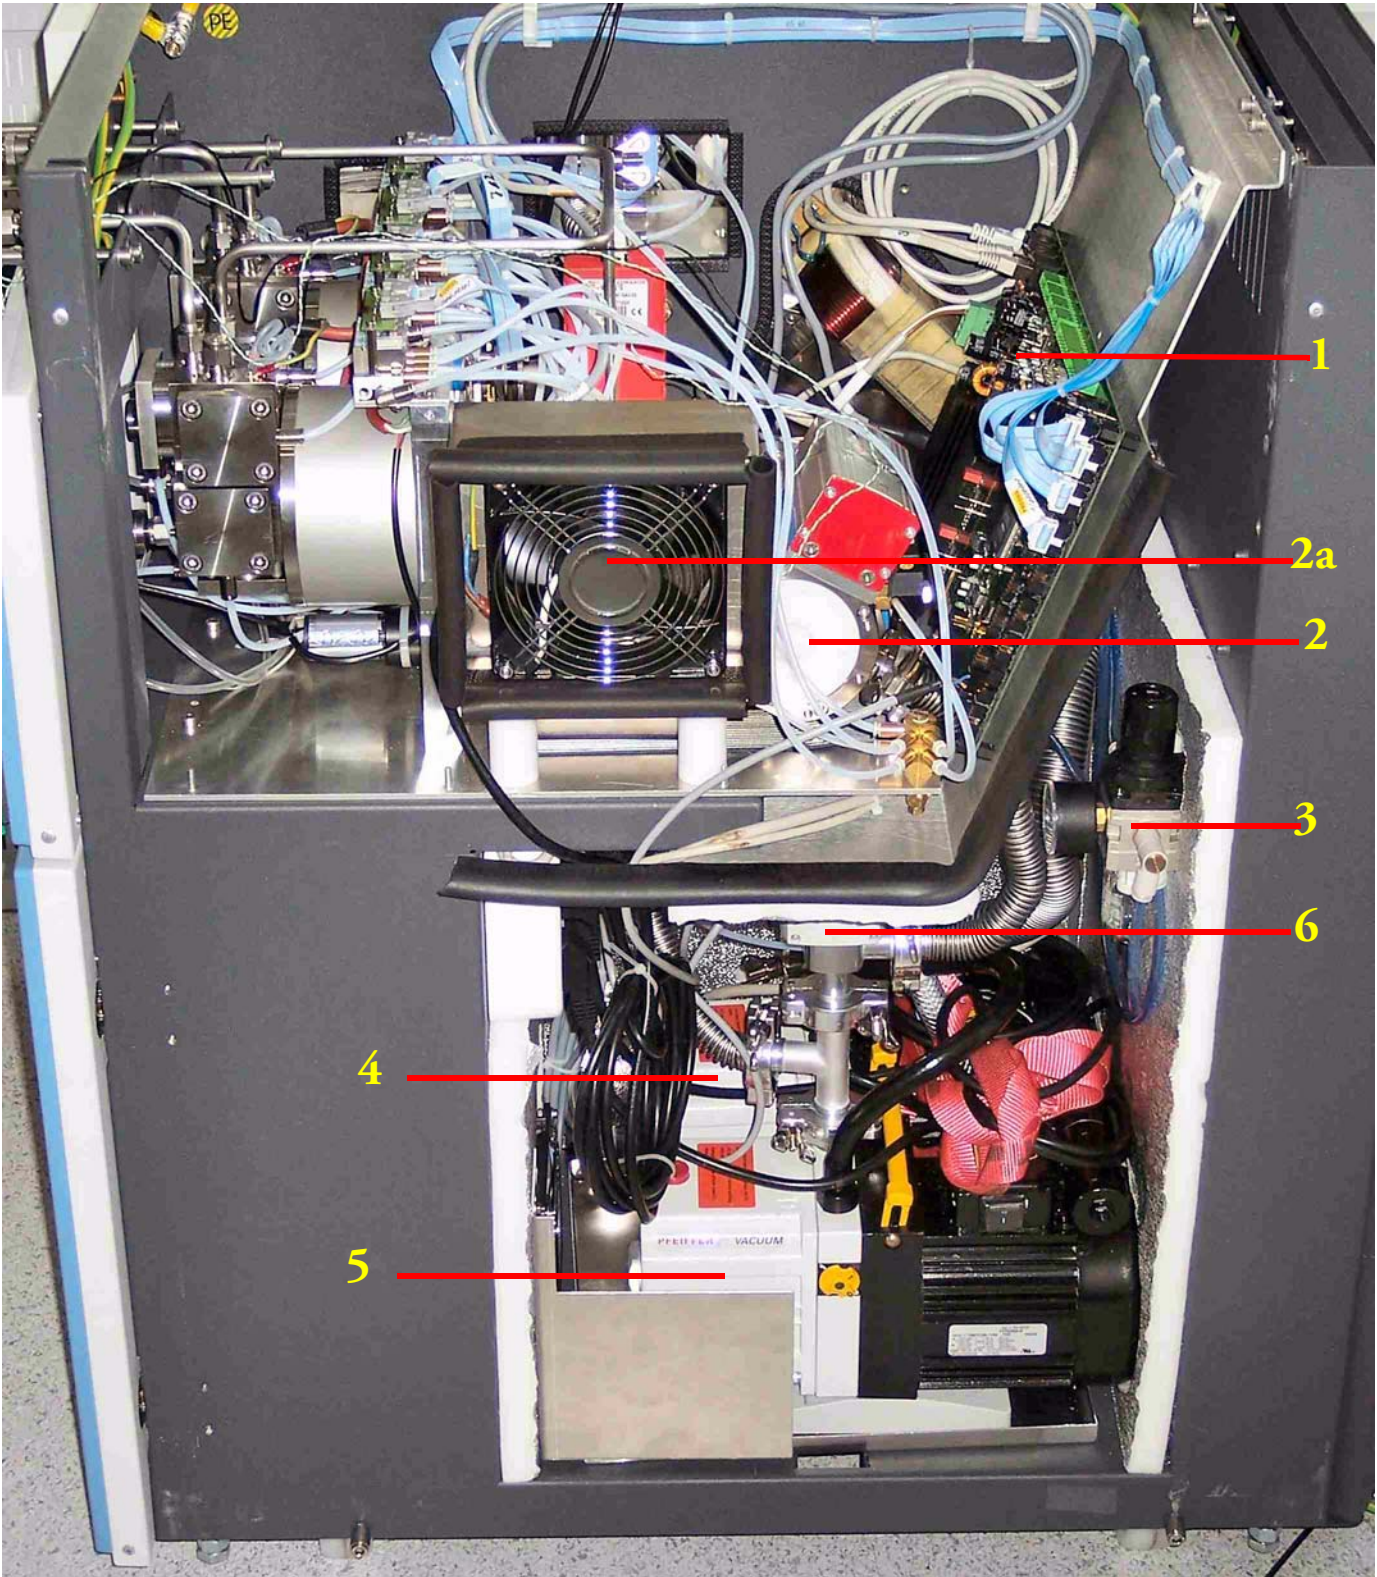
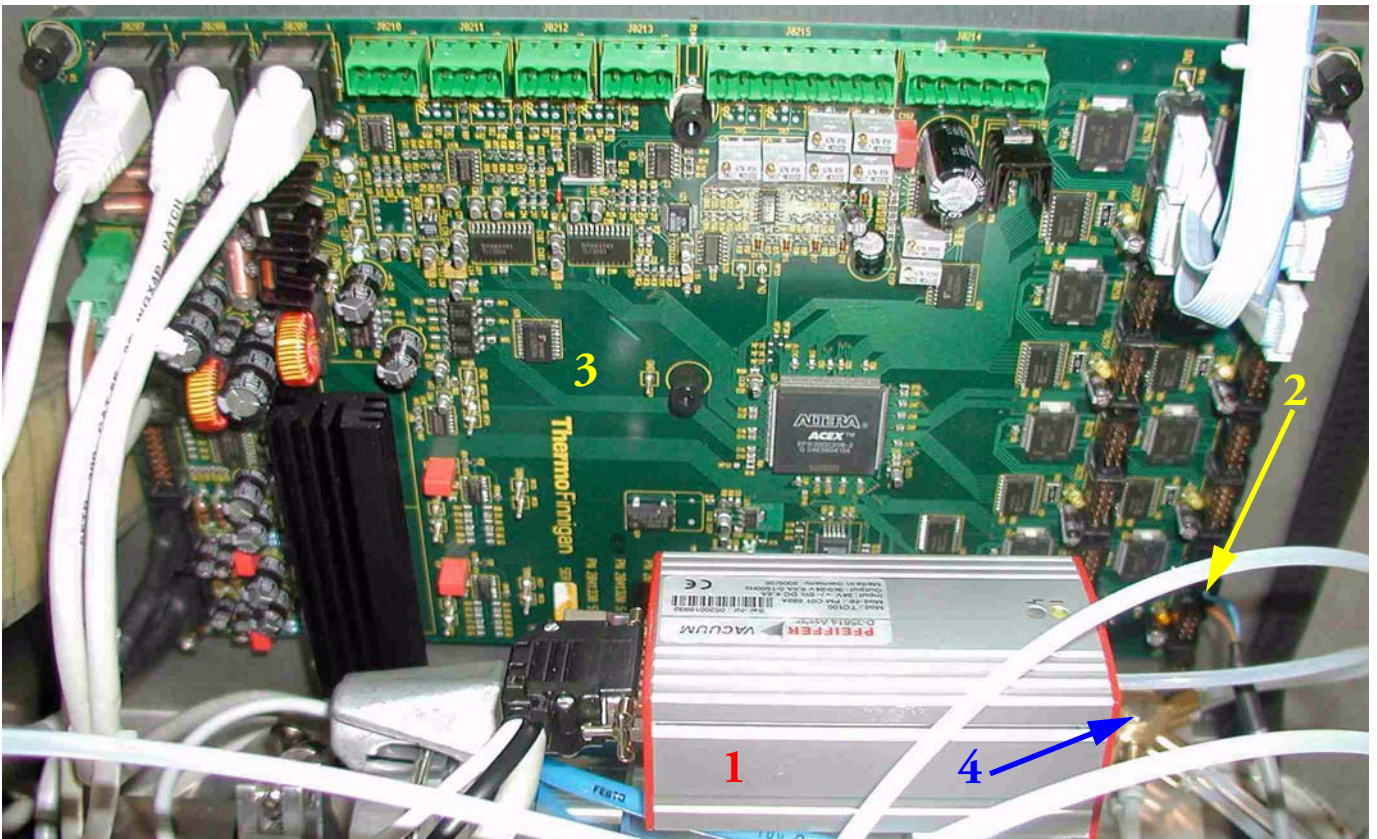
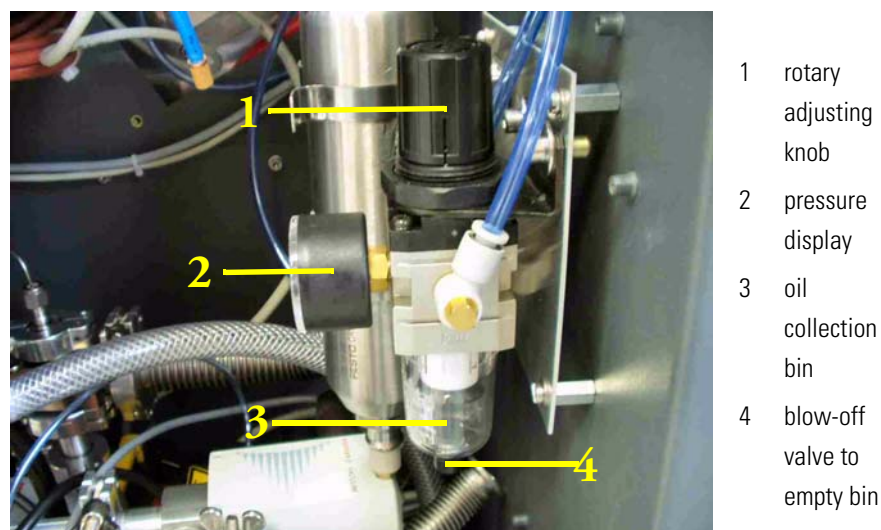

Figure 2-22. Right Side of IRMS
Figure 2-28. Dual Inlet System Turbo Pump and Dual Inlet Board
Figure 2-29. Pressure Reducer for Compressed Air - Side View
* See Figure 2-22.
Dual Inlet Board is located closely to the Dual Inlet system it belongs to. See Figure 2-25 and **1** in Figure 2-22.
Dual Inlet system turbo pump, **2** in Figure 2-22 and **1** in Figure 2-28, is a TMH 071 P manufactured by Pfeiffer and arranged next to the Dual Inlet board. Table 2-18 summarizes related components.
* See Figure 2-28.
The pressure reducer for compressed air, **3** in Figure 2-22, Figure 2-29 and Figure 2-30, regulates the pressure of the compressed air needed for operating the Dual Inlet system and the peripherals. It has been manufactured by Festo.
The analyzer fore pump, **4** in Figure 2-22, is arranged at the bottom of the right side next to Dual Inlet system fore pump. See also **2** in Figure 2-31. It is a rotary vane pump, DUO 2.5, manufactured by Pfeiffer, providing pressures of about 10^{-3} mbar by a rate of 5 m³/h.
If a Dual Inlet system is available, the appropriate Dual Inlet system fore pump is placed at the bottom of the right side of the IRMS (**5** in Figure 2-22 and **1** in Figure 2-31). It is a rotary vane pump, DUO 2.5 manufactured by Pfeiffer, as well and thus provides a pressure of about 10^{-3} mbar by a rate of $5 \text{ m}^3/\text{h}$, too.